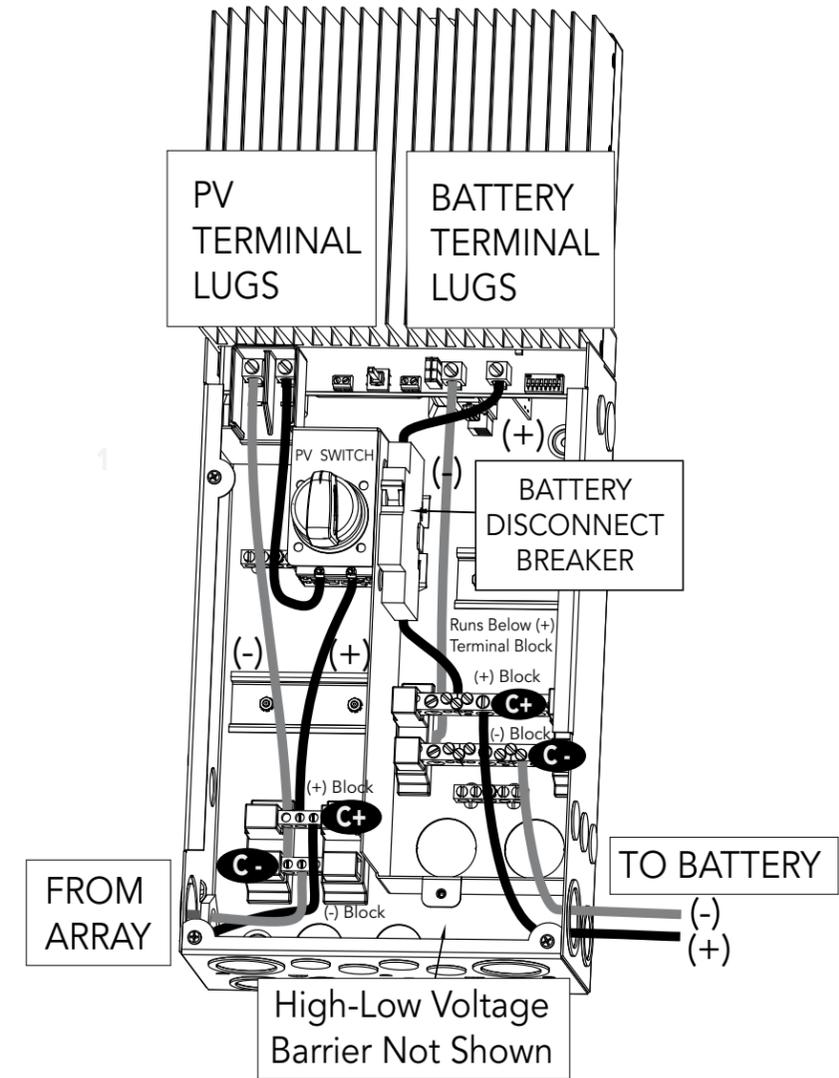

Figure 3-15. Power Terminal Locations
**Connect the four (4) power conductors shown in Figure 3-15 as described in the following steps:**
2. Pull solar and battery wires into the Disconnect Box (DB). The Remote Temperature Sensor (RTS) and Battery Sense wires can be routed inside conduit with the battery power conductors, if required. Unless rated for 600V, the RTS and Battery Sense wires CANNOT be routed in the same conduit with the high voltage solar conductors. It is easier to pull the RTS and BVS wires before the power cables.